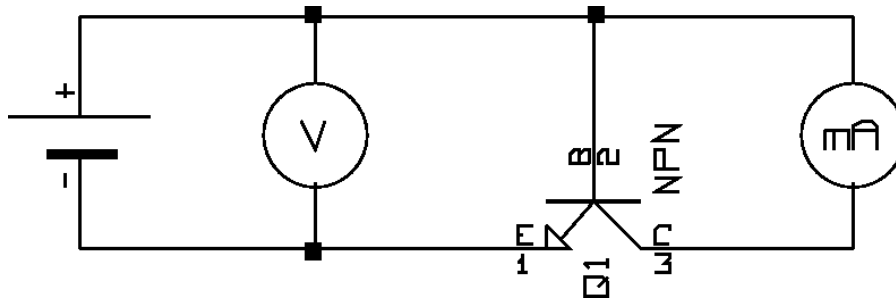

Figure 4: Electric circuit used to investigate a bipolar transistor (common base configuration).
1. Build electric circuit according to fig. 4. Do not switch on power supply.